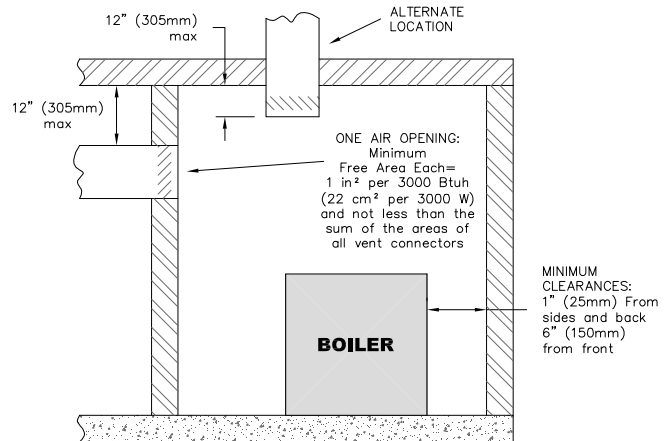

Figure 1.6: Air Openings – All Air from Outdoors through One Opening
- b. **One Permanent Opening Method:** Provide one permanent opening beginning within 12 inches (305 mm) of the top of the space. The opening shall communicate directly with the outdoors, communicate through a vertical or horizontal duct, or communicate with a space that freely communicates with the outdoors. The openings shall have a minimum free area of 1 in² per 3000 Btu/hr of total rated input for all appliances in the space and not less than the sum of the cross-sectional areas of all vent connectors in the space. The gas fired equipment shall have clearances of at least 1 inch (25 mm) from the sides and back and 6 inches (150 mm) from the front of the appliance. See Figure 1.6 for this arrangement.